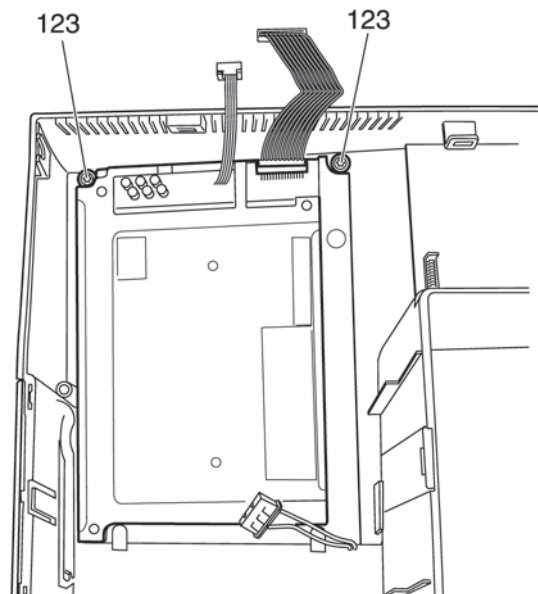

Fig. 33
- Remove both screws 123 (fig. 33).